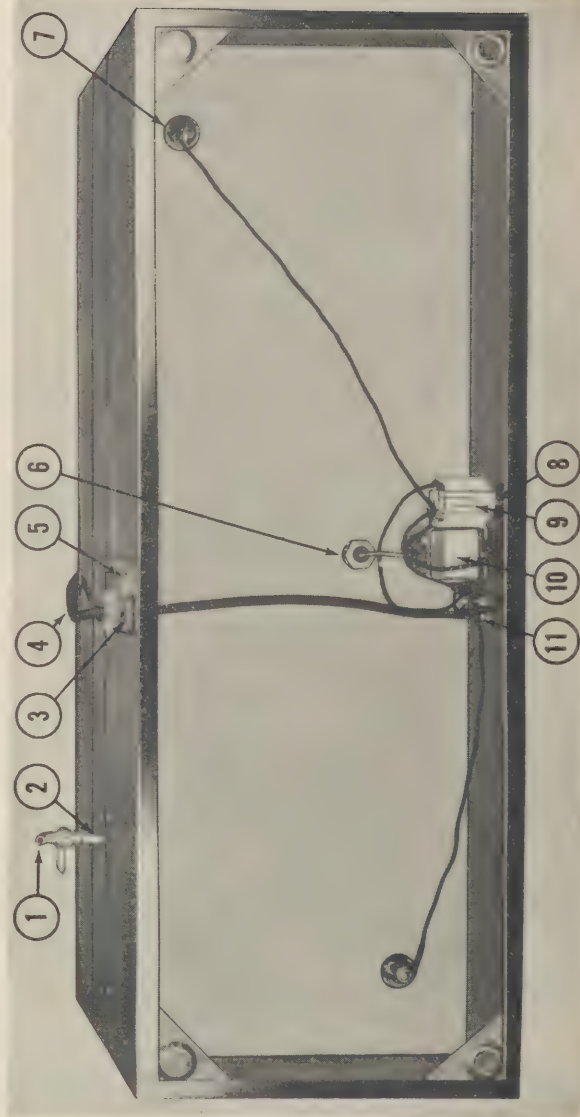
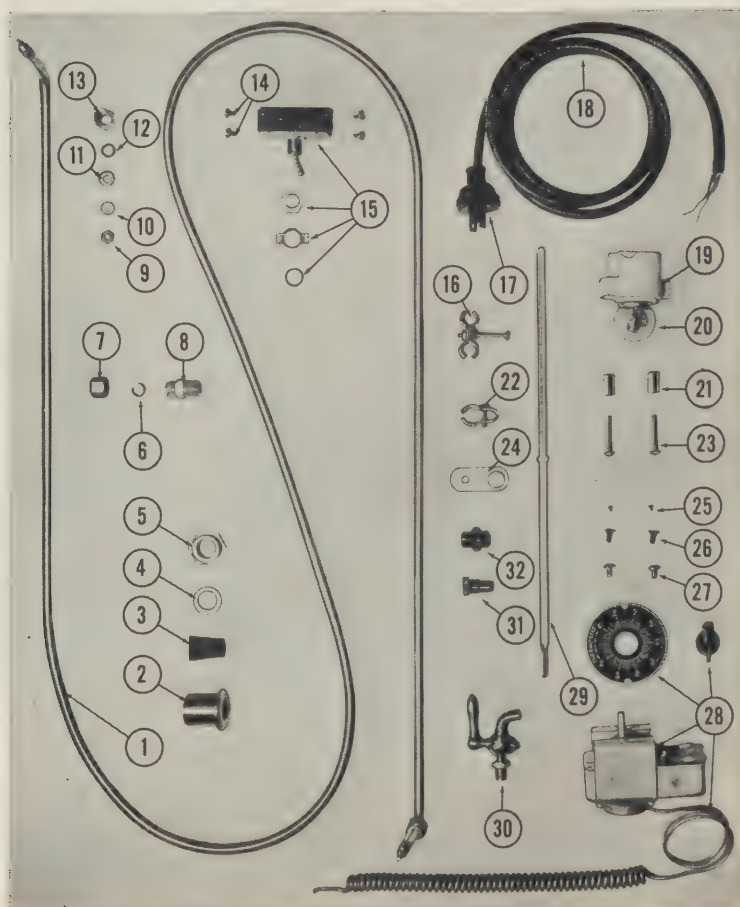

Figure 7. Item No. 4479008, water bath, serological, inactivating, Precision Scientific Co. Bottom view.
Figure 9. Item No. 4479008, water bath, serological, inactivating, Precision Scientific Co. Identification of parts.
**a.** To replace burned out heater elements. (1) Disconnect the wire leads at the heater terminals by unscrewing the hex nuts, (7) figure 7.
**c.** To replace thermostat. (1) Remove wire leads by loosening the two screws holding them.
(2) Remove the thermostat sensitive bulb from the heater element.
(3) Unscrew and remove the packing gland nut, (6) figure 7, washer, (4) figure 9, and packing, (3) figure 9.
(4) Unscrew the set screw on the bottom of the thermostat knob and remove the knob.
(5) Remove the thermostat dial.
(6) Remove the two flat head screws located under the dial.
(7) Thermostat mechanism can now be removed from the front panel.
(8) Slide the capillary tube and sensitive bulb through the packing gland (figs. 9 and 10) in the bath bottom.
(9) To reassemble, reverse disassembly procedure.
**d.** To replace heater switch. (1) Disconnect the wire leads to the switch by loosening the four screws holding them.